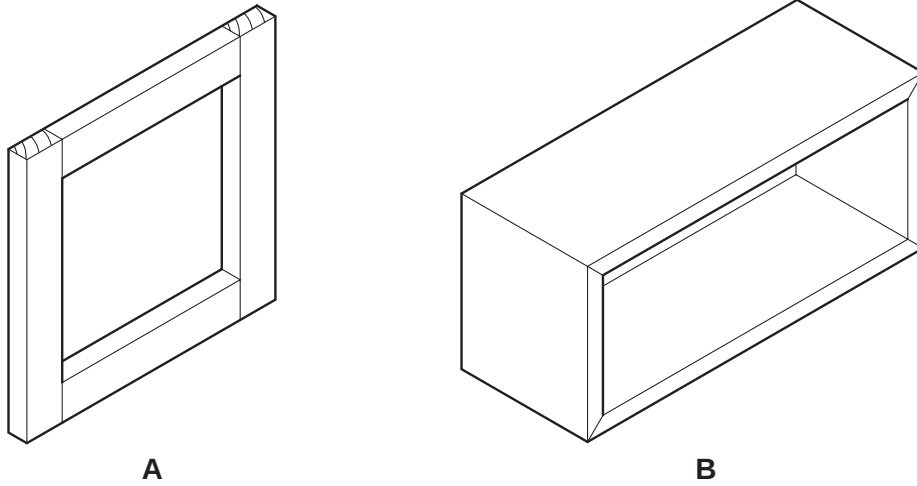

Fig. 1
- 1 Name the two forms of woodwork construction shown in Fig. 1.